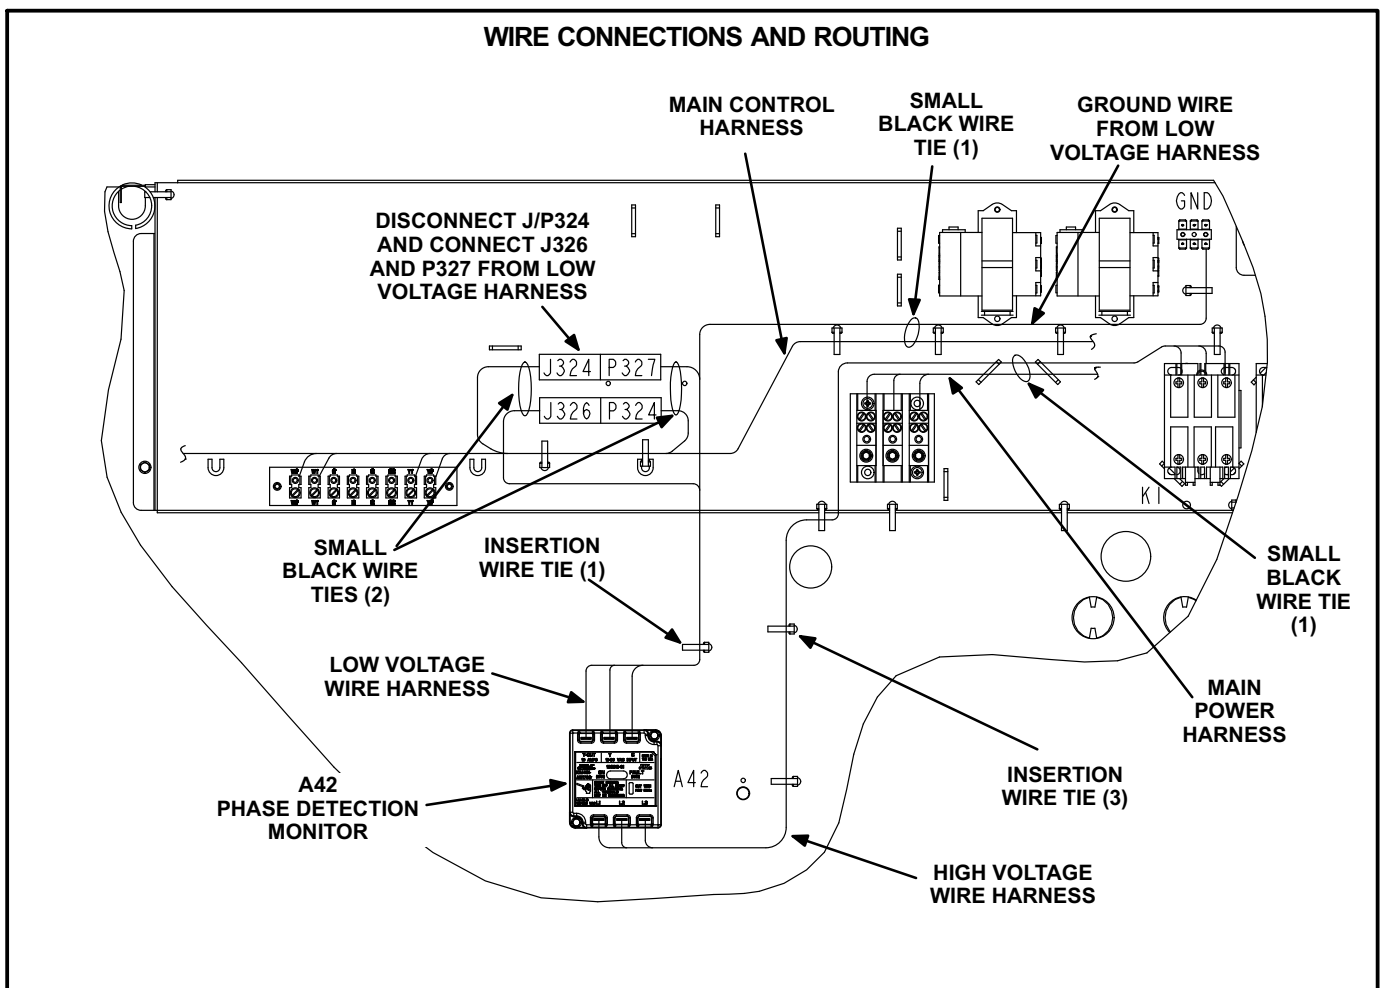

FIGURE 2
- 2- Install A42 phase detection monitor on compressor panel with screws provided in kit. Use location shown in figure 2.
- 4- Disconnect P324/J324 in main control harness and connect low voltage harness using J326 and P327 respectively. Route harness as shown in figure 2 and connect ground wire to ground terminal strip.
- 5- Attach low voltage harness to compressor panel using an insertion wire tie and to main control harness using small black wire ties supplied in kit. Locations shown in figure 2.
- 7- Route harness as shown in figure 2. Connect wires to K1 contactor with the pink wire to line 1, yellow wire to line 2 and blue wire line 3.
- 8- Attach high voltage harness to compressor panel using insertion wire ties. Secure high voltage harness to main power harness using a small black wire tie supplied in kit. Locations shown in figure 2.